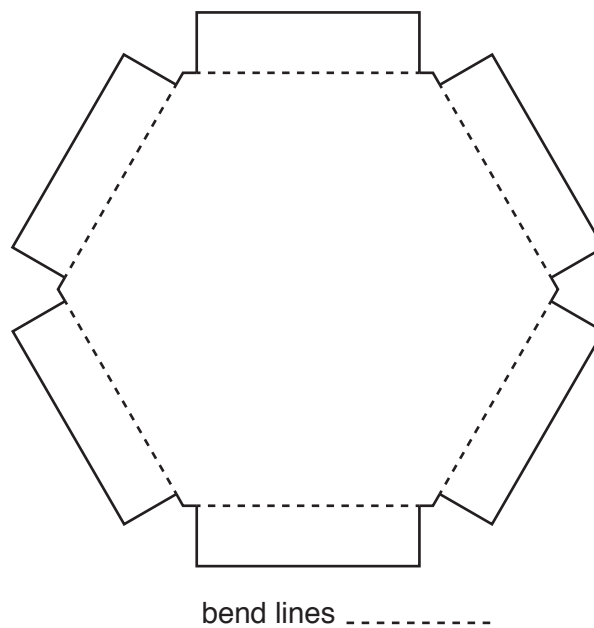

Fig. 10
- (a) Fig. 10 shows the development (net) of the base of the desk organiser as a card template that will be glued to the acrylic.